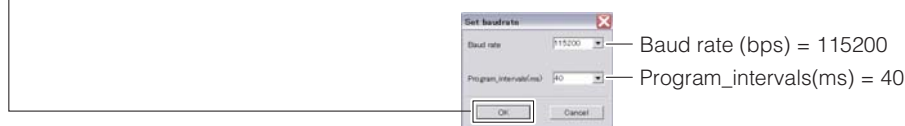

Fig. 2
5. The screen will appear as shown below. (Fig. 2)
6. Select "115200" for Baud rate (bps) and "40" for Program_intervals (ms). (Fig. 2)
7. Click [OK]. (Fig. 2)